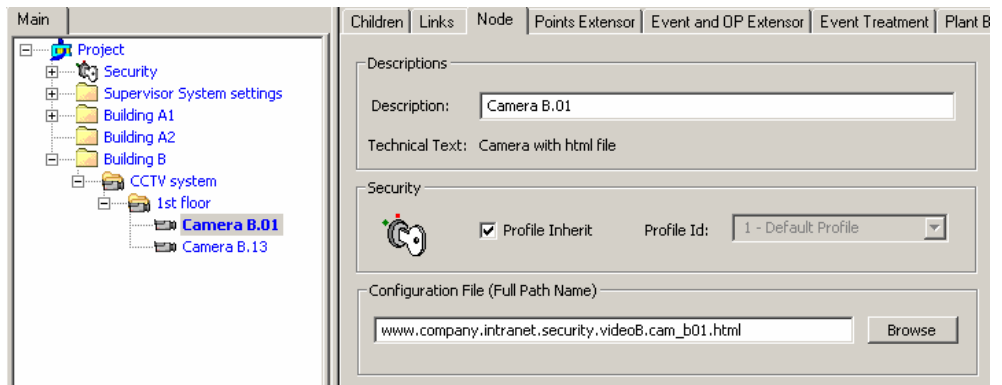

Fig 34 Configuring the web-based viewer
2. In case HTML-based viewer (Fig 34), enter the URL address